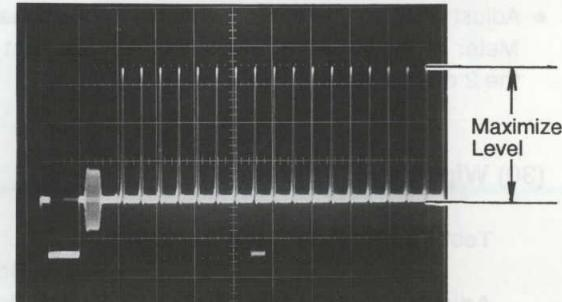

Fig. 4-18
- Adjust VR24 so that the signal level becomes maximum as shown in the Fig. 4-18.